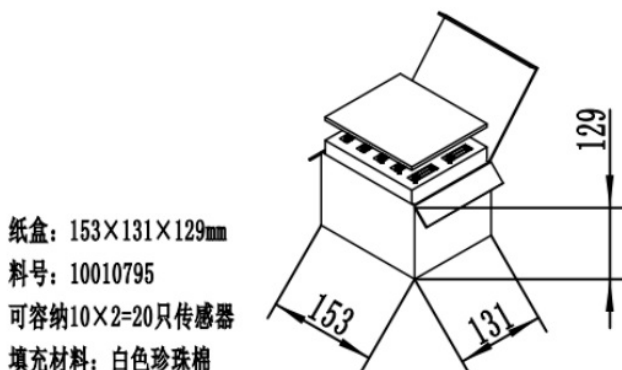

Figure 11-inner box
2. Put the whole plate of sensors in Small Box one by one **(Figure 11)**,